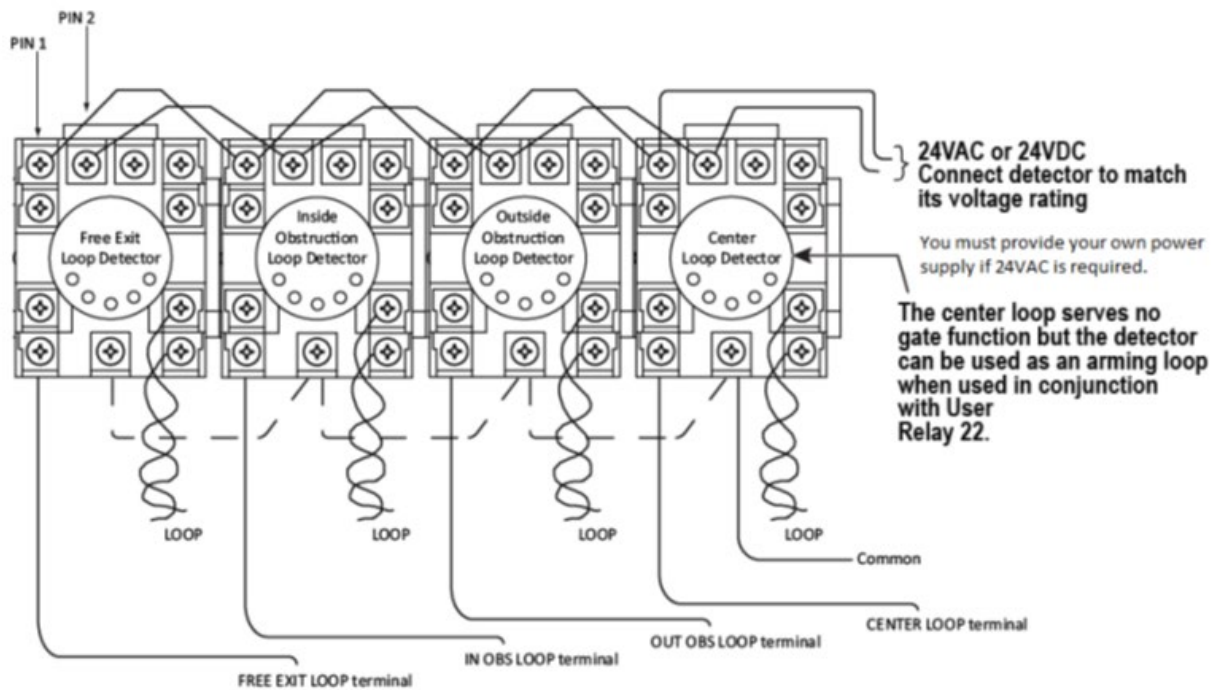

Figure 31. Standard 11-Pin Box Type Vehicle Detector
1. **If there is sufficient space, install the sockets in the control box; if not, then install them in a separate external housing. Figure 31 is for general reference only.**
5. **If multiple detectors are used, route the power wires and common wire from socket to socket (daisy chaining) rather than individually running each wire to the same location. See Figure 31. The only wires that are separate are the output wire to the SmartDC Controller and the detector loop input wires.**